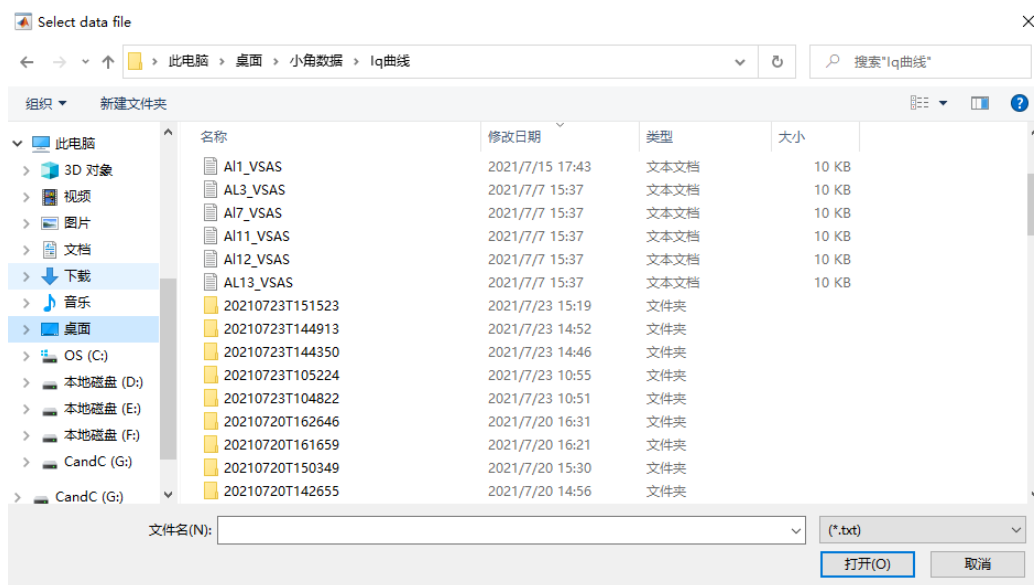

Figure 4.2.1(a) File loading interface of VSAS
- Return to the main page, and the Porod fitting part can fit the small-angle scattering data according to the corresponding formula in Figure 4.2.1(b). Click "Help" button to obtain the specific meaning of each fitting parameter under Porod law.